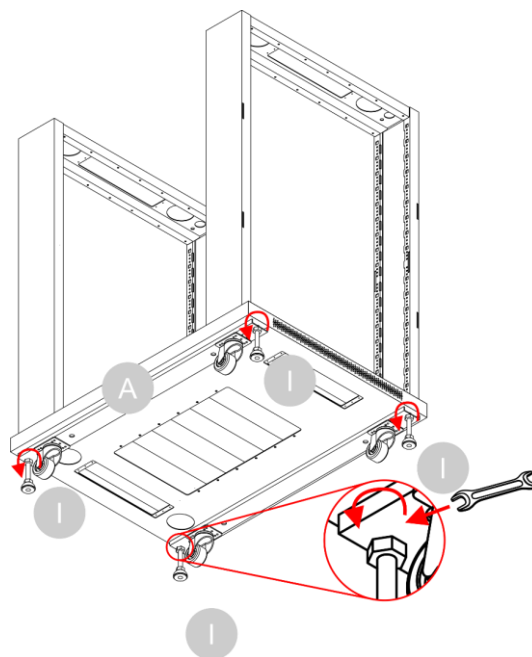

Fig. 24
07) Tighten the top nut of the **adjustable feet (I)** with a wrench, as shown in Fig. 24.